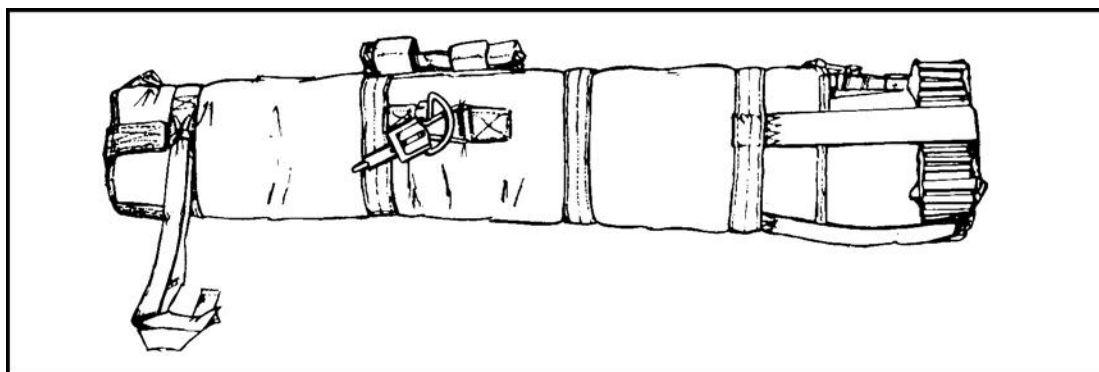

Figure 12-51. Running ends secured.
- (3) Insert the cone-shaped end of the shock absorber into the launch tube aft end.
- (4) Position the 8-inch square honeycomb on the shock absorber flat surface. If the shock absorber is missing from the training round, replace it with two 8- by 8-inch cardboard honeycomb energy dissipaters. Thread the end of the securing strap through the launcher aft end securing strap keeper. Route the two aft end securing straps over the cardboard honeycomb through each quick-fit adapter and tighten, then thread the end through the adapter, forming a quick-release fold. Fold excess securing straps back under the corresponding quick-fit adapter (Figure 12-51).
- (5) Route the launcher forward end securing strap under the nonadjustable cross D-ring strap through the quick-fit adapter and tighten. Then thread the end through the adapter, forming a quick-release fold. Fold excess securing straps back under the corresponding quick-fit adapter.